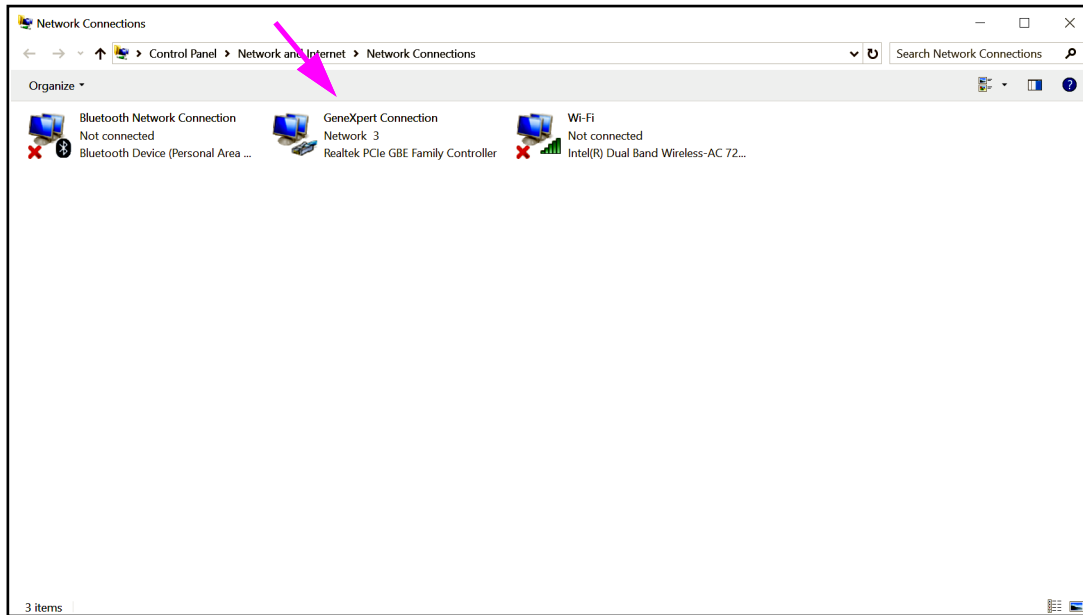

Figure 2-26. Network Connections Screen
3. Select **Control Panel**. If the view is set for **Category**, the screen appears as shown in Figure 2-26.